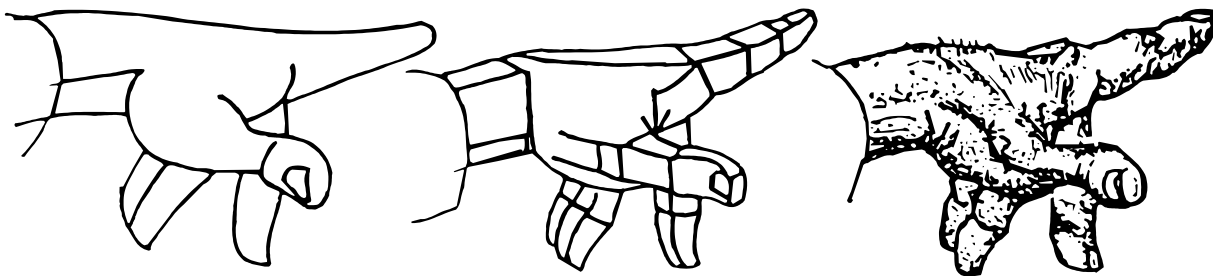

Figure K-7. The hand.
(2) The hands are not as easily reduced to basic forms as are the torso, arms, or legs. However, they can be shown as a form envelope or as a combination of simple forms that represent many smaller forms with reasonable accuracy. Figure K-7 shows how a combination of a cube and wedge shape represents the hand. The cubic form symbolizes the palm of the hand, while the tapering wedge represents the fingers. The finger wedge is about the same size as the cubic area of the palm.